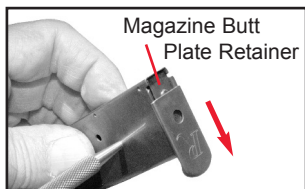

Figure 24
5. Using a rigid tool, push the Magazine Butt Plate Retainer tab in while partially sliding the Magazine Butt Plate toward the front of the Magazine Body. See Figure 24 and 25.
7. Carefully finish sliding the Magazine Butt Plate from the Magazine Body. See Figure 24.